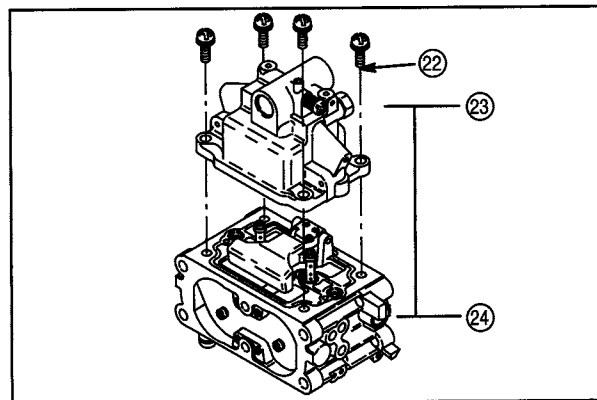

Fig. 75
14. Assemble lower body with main jet plugs (23) facing throttle shaft side (24) of carburetor. Make sure gasket remains in position, **Fig. 75**. Tighten screws (22) securely.